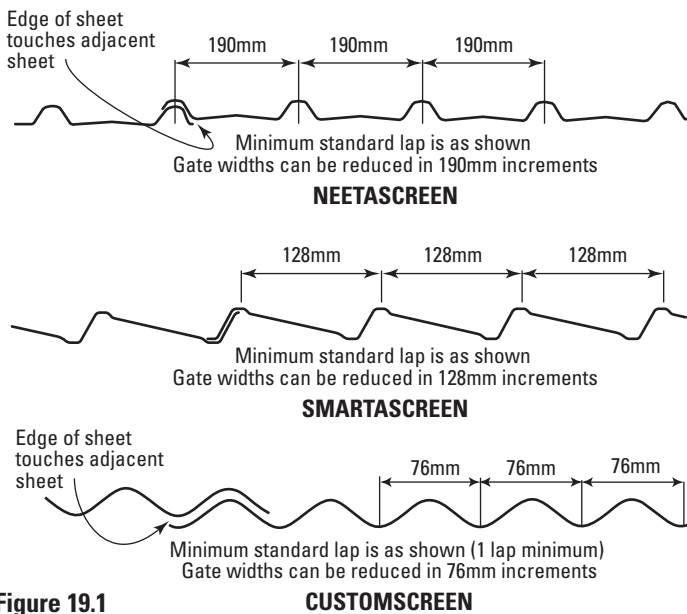
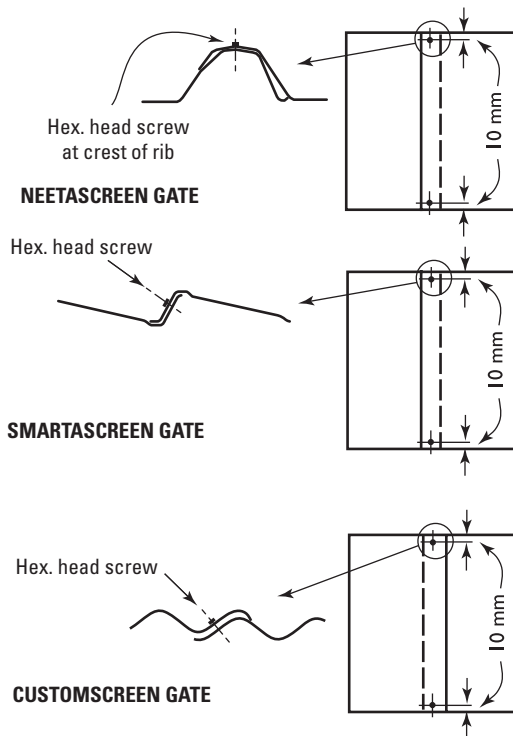

Figure 19.1
Figure 19.2
- 2) For extra-wide gates: overlap sheets to the desired width (Figure 19.1). Join the two sheets with hex. head screws (#10-16 x 16), through the overlaps, at both top and bottom edges (Figure 19.2).